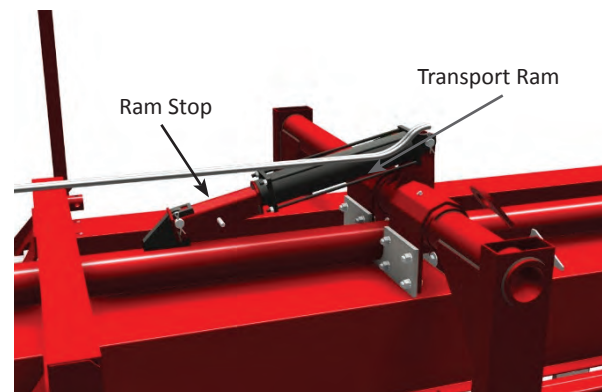
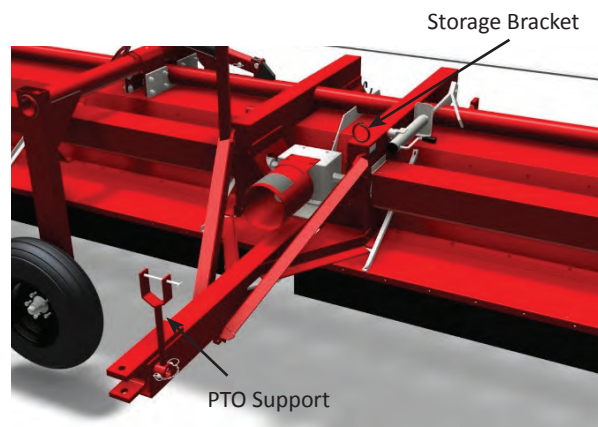

Figure 10: Ram Components
Figure 11: PTO Support
3. Remove the transport ram stop shown in Figure 10. Remove the PTO shaft support from the pole (Figure 11), put it on the mount on the left side of the Shredder and run the hydraulic hoses through it.